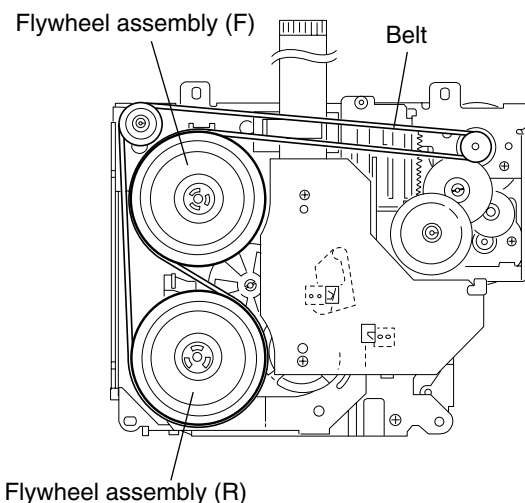

Fig.20
■ Removing the flywheel assembly (F) & (R) (See Fig.20 and 21)